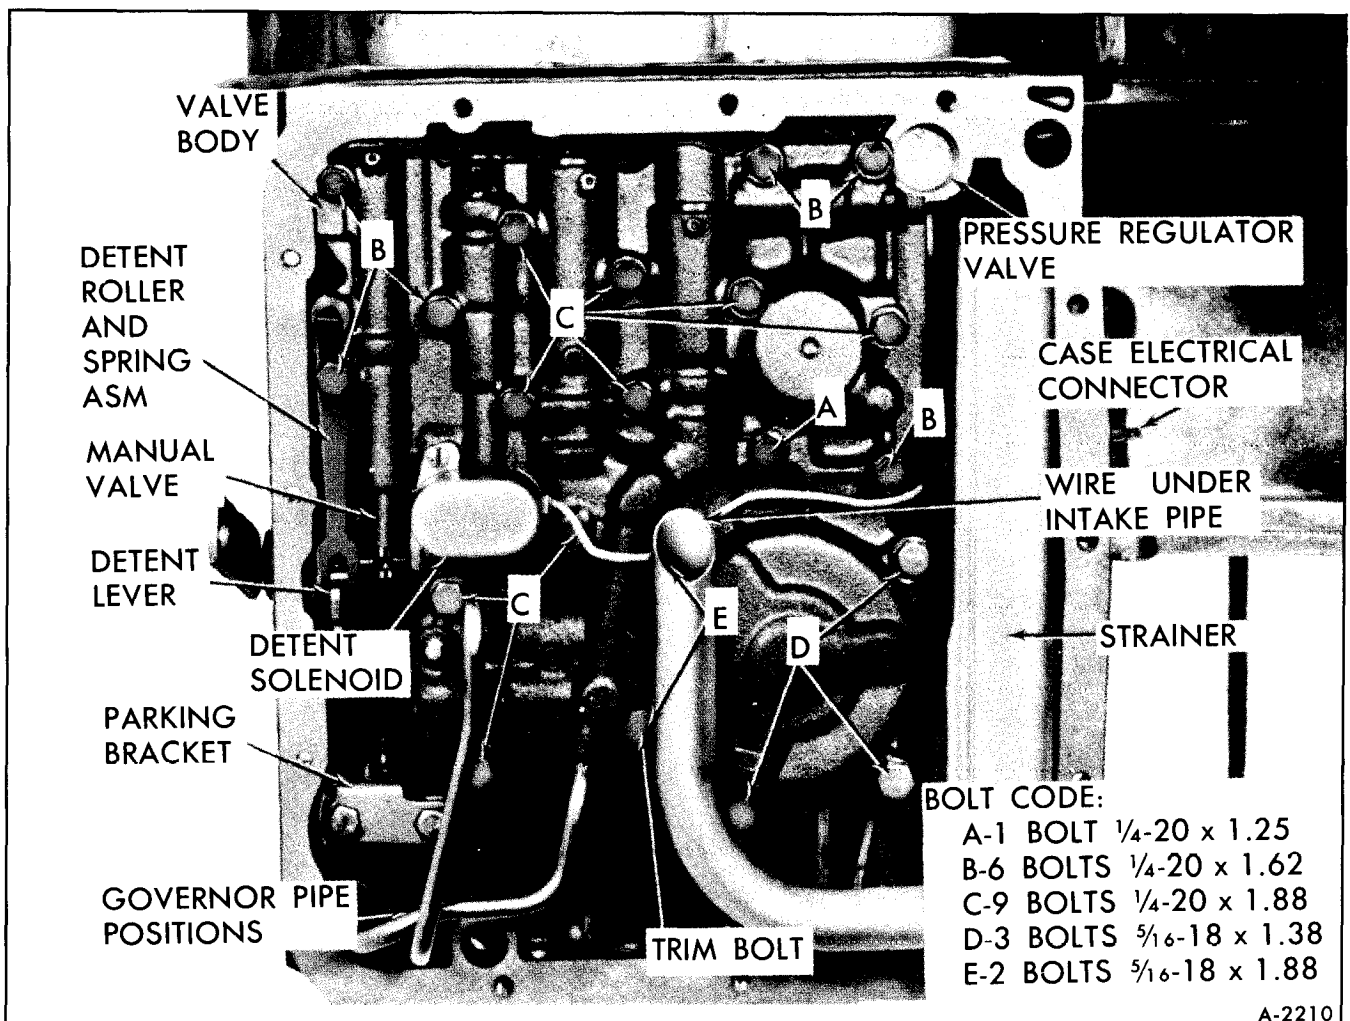

Figure 93—Control Valve Screws
2. Remove guide pins and install control valve assembly attaching screws, eliminating detent roller and spring assembly attaching screw. Torque bolts to 8 foot-pounds, Figure 93.